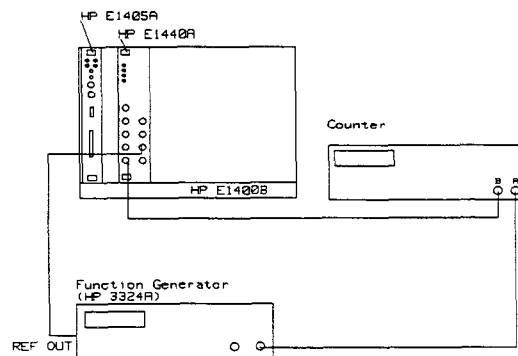

Figure C-6. Phase Increment Accuracy Test Set-Up
1. Connect the equipment as shown in Figure C-6.